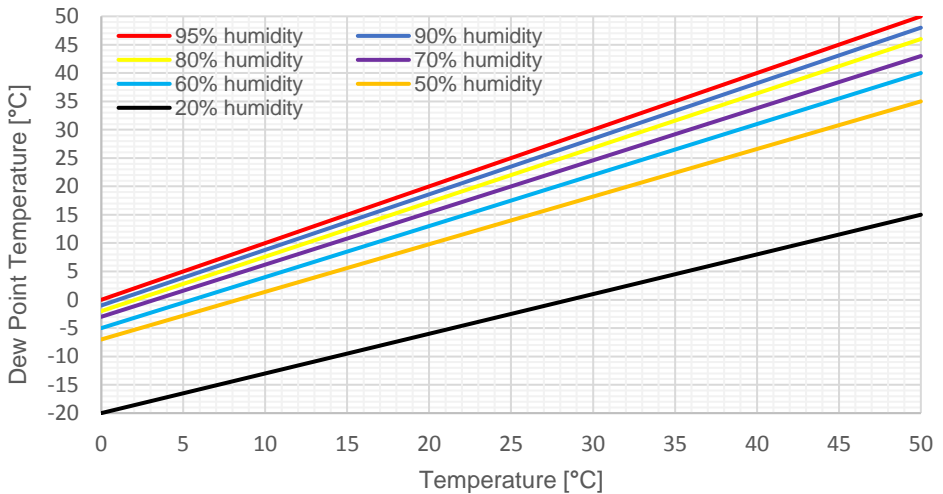

Figure 7. Graph of dew point temperatures influenced by relative humidity.
- Find the corresponding curve on figure 7 that matches the humidity of the room in which the device is located.